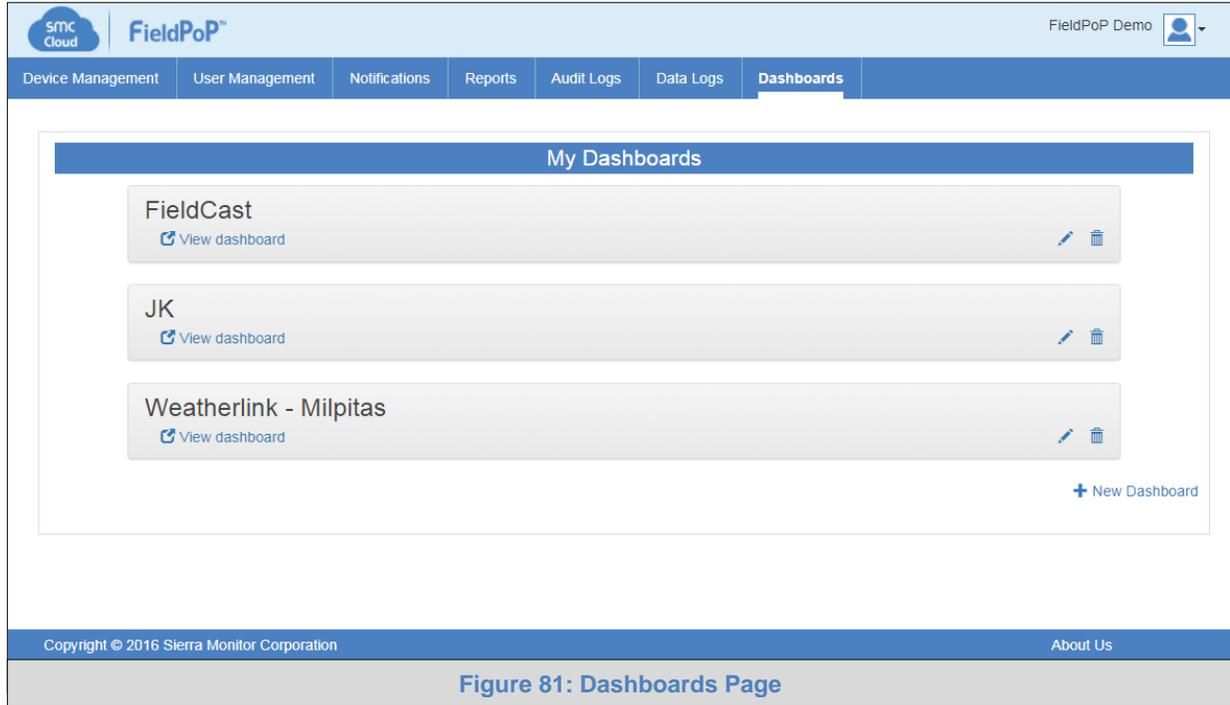

Figure 81: Dashboards Page
- Click the edit icon (✎) on the right side of the desired dashboard entry to rename (Figure 81).
- Click View dashboard on the desired dashboard entry (Figure 81) to open the dashboard proper.
- Click the trash icon (  ) on the right side of the desired dashboard entry to delete ( Figure 81 ).